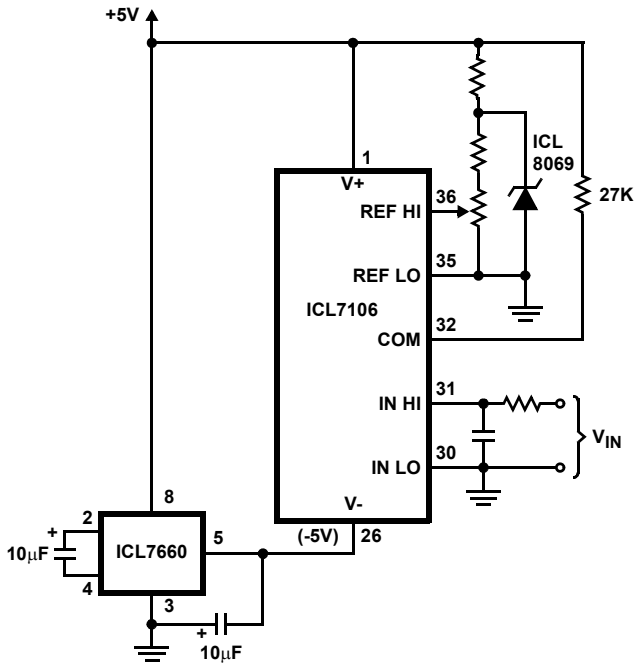

FIGURE 2. OPERATION FROM +5V SUPPLY WITH
**Action** - The connection to analog COMMON should be checked. If external voltage reference is used, the COMMON pin should have a pullup resistor of 27k $\Omega$  connected between it and the positive power supply, as shown in Figure 2.
**Action** - This is caused by the use of the internal reference of the ICL7107 in applications where external LED displays are also being driven. The power dissipated by the LED drivers causes internal chip heating which causes the internal voltage reference to drift. This can be avoided by using an external voltage reference such as the ICL8069, which is considerably more stable than the internal reference of the ICL7107. See Figure 2 for connections.